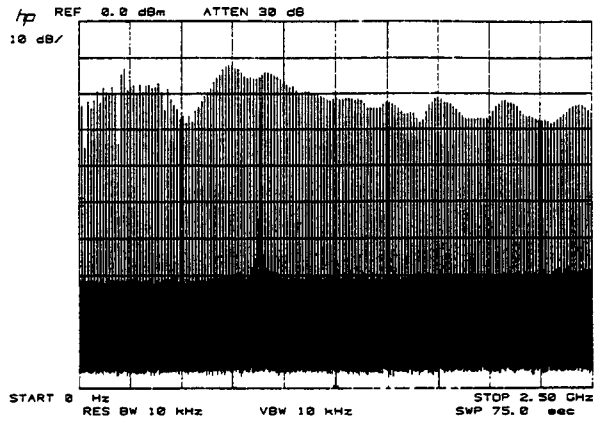

Figure 22. Pulse Generator Output
1. Remove the A7-to-A6 SMB cable (W7) from the A7 pulse generator assembly. Set the analyzer to generate a 16 MHz CW signal. Connect the spectrum analyzer to the A7 output connector and observe the signal. The A7 comb should resemble the spectral display in Figure 22.